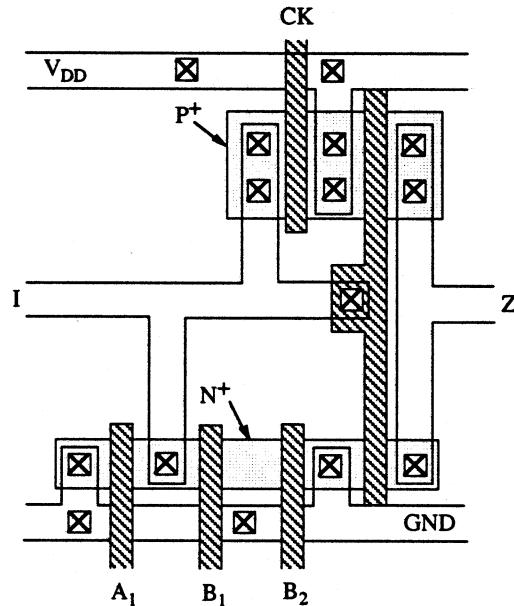

Fig. P7.1
- 7.1** A CMOS circuit was laid out based on a company X's 3  $\mu\text{m}$  design rules as shown in Fig. P7.1 with  $W_n=7\mu\text{m}$  and  $W_p=15\mu\text{m}$ .
- (a) From Fig. P7.1, determine the circuit configuration and draw the circuit diagram.